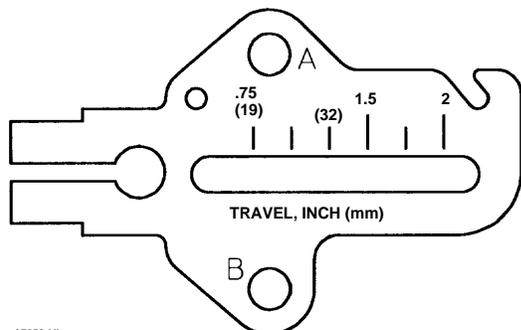

Figure 2-15. Alignment of Travel Markings
6. Loosely install the washer (key 126) and machine screw (key 109) to attach the adjustment arm (key 106) to the actuator feedback bracket (key 108).
7. Slide the adjustment arm pin in the slot of the feedback arm until the pin is in line with the desired valve travel marking (see figure 2-15). Tighten the machine screw (key 109).